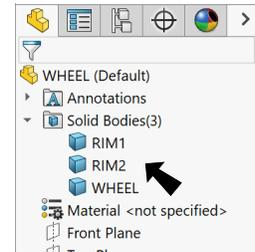

Fig. 50
- Step 1. Rename bodies RIM1, RIM2 and WHEEL, Fig. 50.